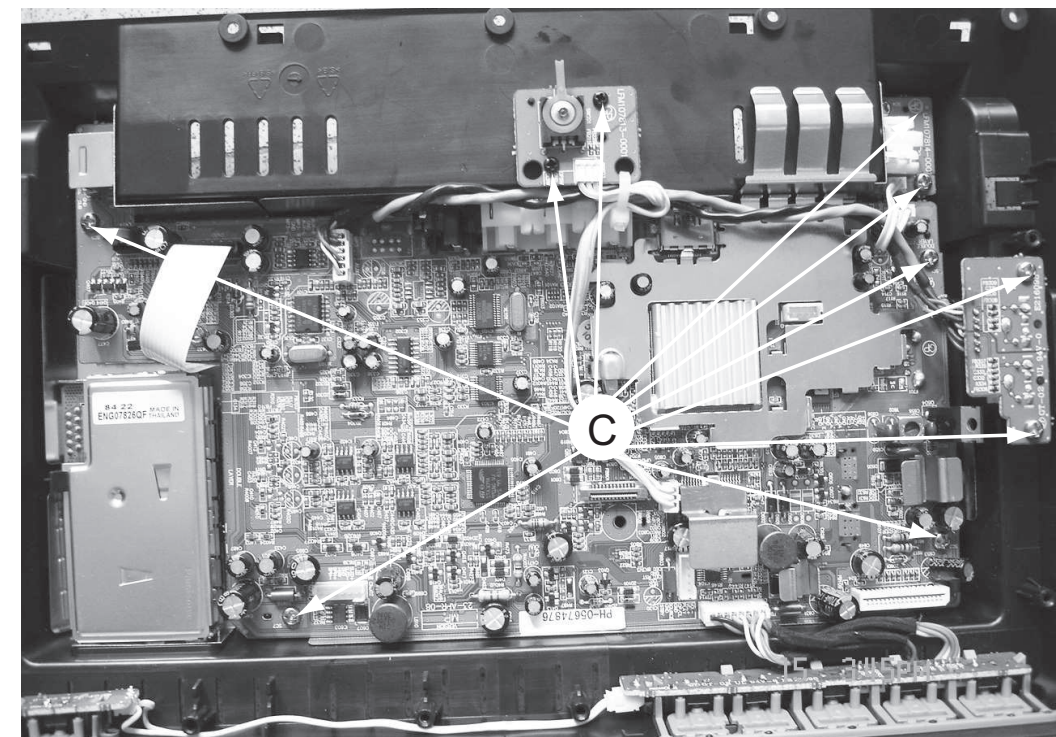

Figure 5
- 1) Loosen 10 screws "C" on the top of MAIN+IR+SW+CVBS+FCC+K1+K2+MP3 IN board as shown in figure 5.